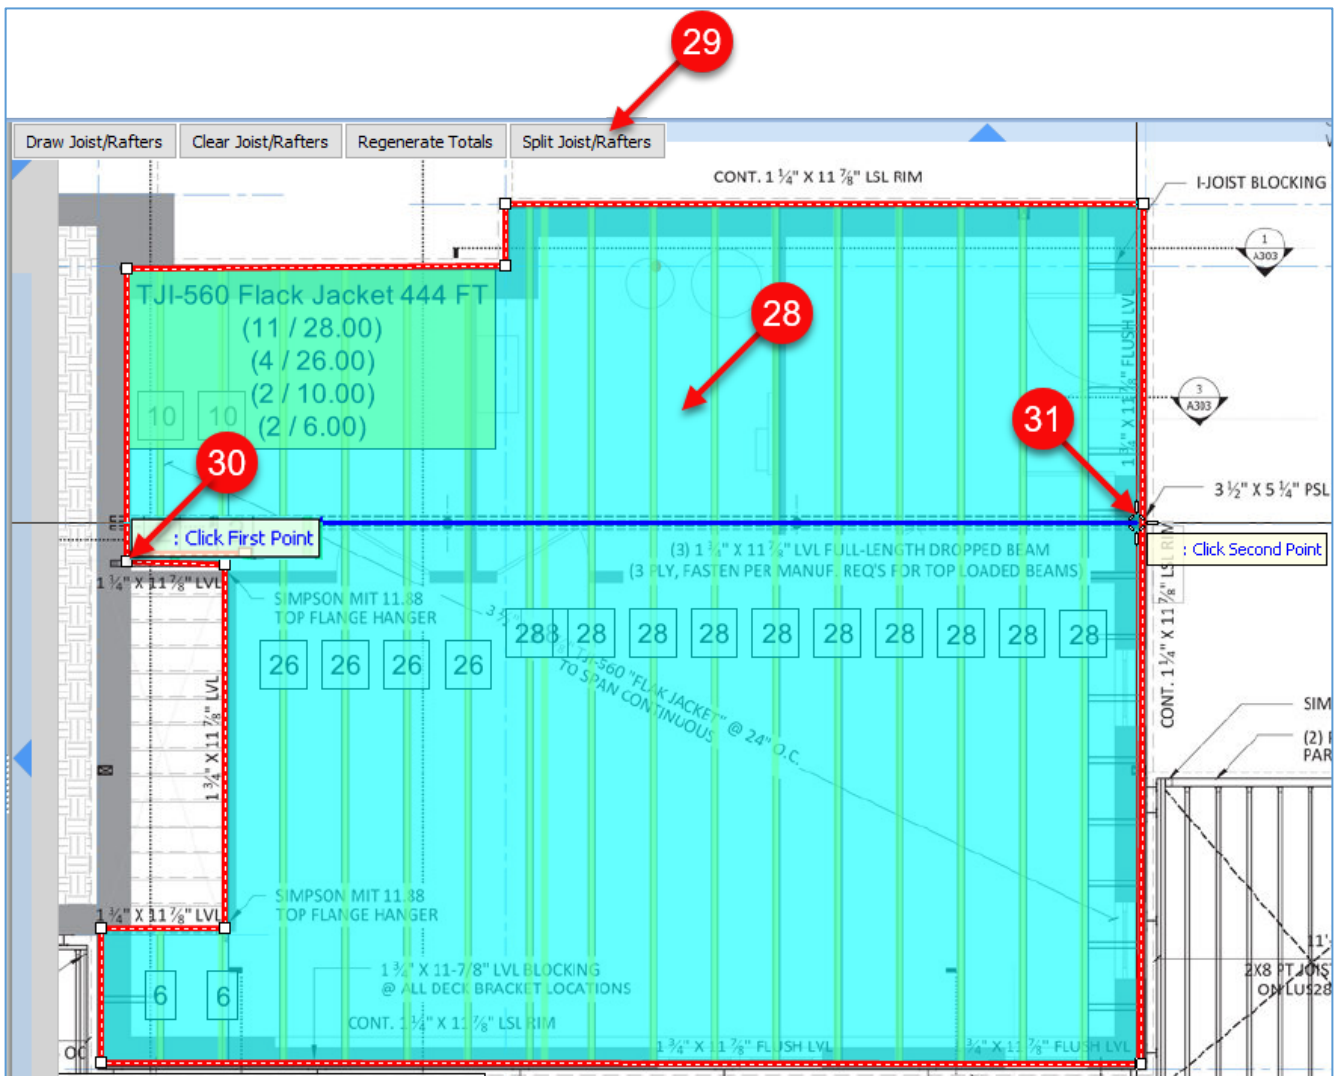

Figure 36-F
33. If you want to change the rounding properties or any other joist properties, double-click on the area takeoff (or right-click on the area takeoff and select **Properties** from the drop-down menu) (Fig. 36-H).